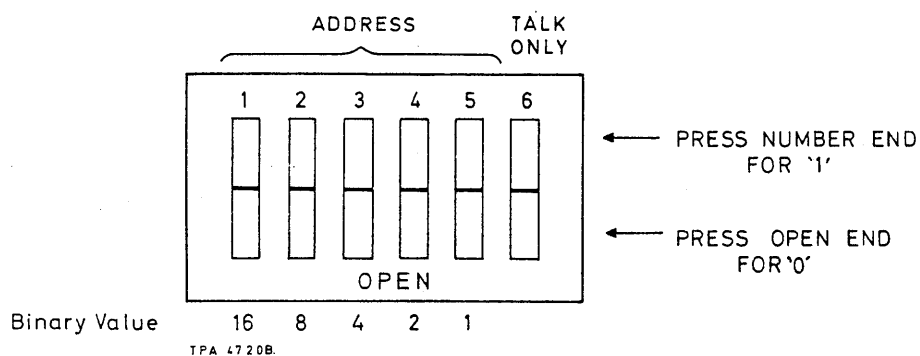

Fig. 3 GPIB address rocker switch
37. The instruments talk and listen addresses can be selected by the address switch, illustrated in Fig. 3. This is positioned on the GPIB unit alongside the connector and is accessible at the rear panel.